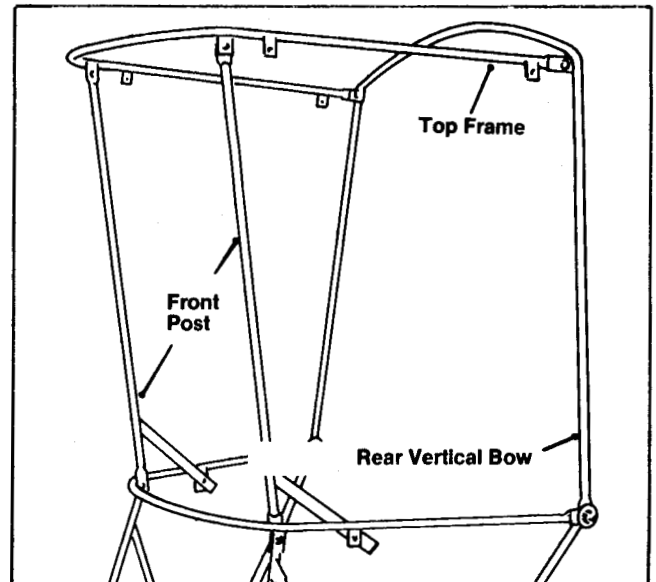

Figure 139
9. Mount the top frame to the rear vertical bow and to the upper ends of the front posts with four 1/4-20 X 3/4" capscrews and locknuts. See Figure 139.